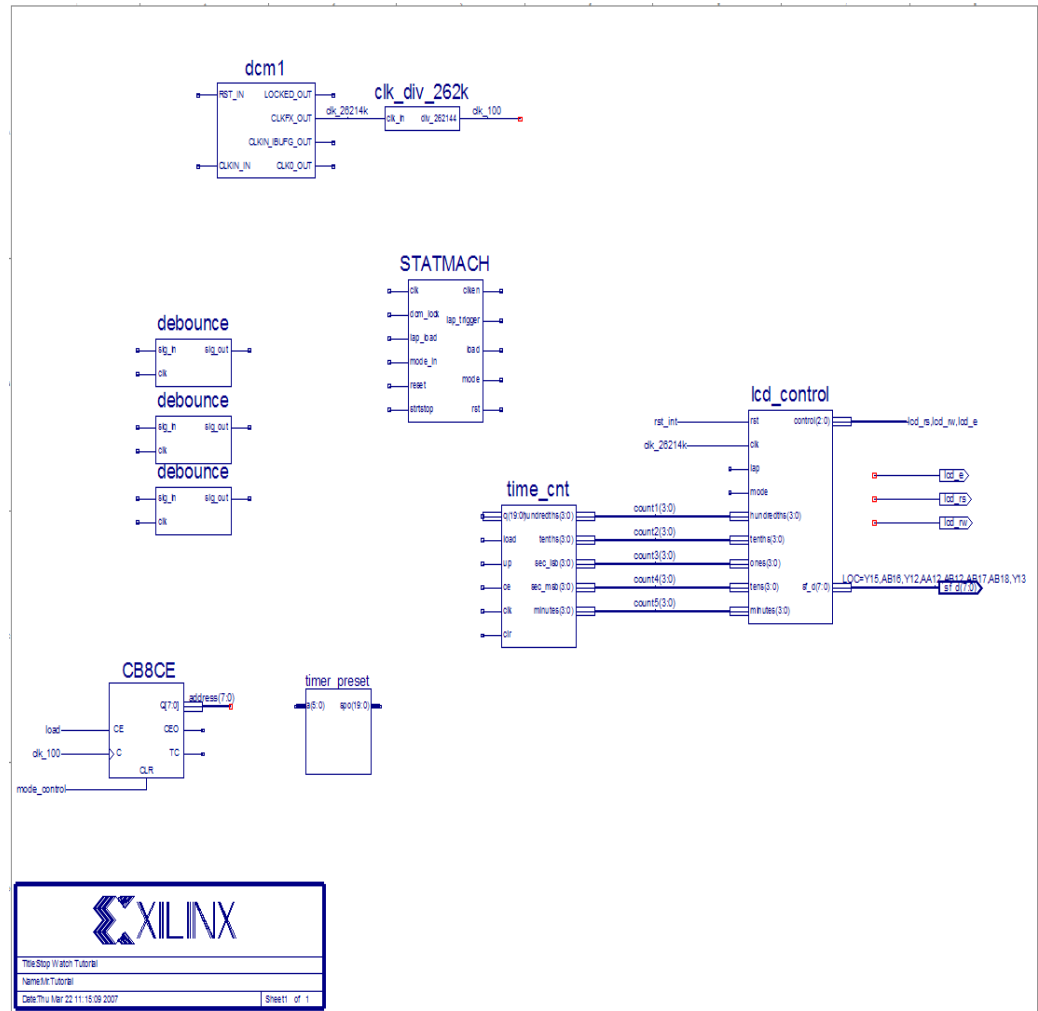

Figure 3-36: Placing Design Macros
4. Select the appropriate symbol, and add it to the stopwatch schematic in the approximate location, as shown in Figure 3-36.